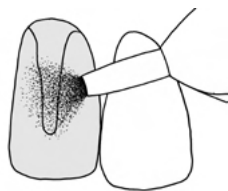

Fig. 1
1. Roughen and clean all surfaces (both ceramic and metal) to which composite will be bonded by blasting with 50-micron aluminum oxide. (Figure 1)*